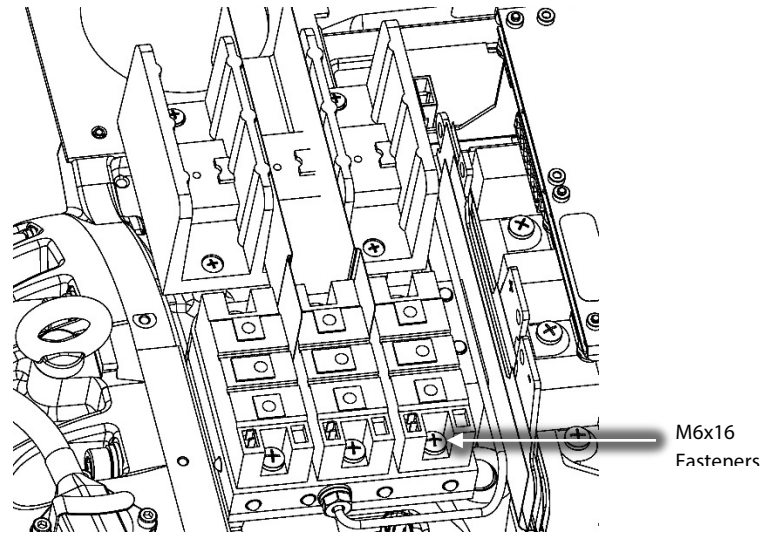

Figure 18 – SCR Fasteners
30. Remove the M6x16 fasteners that secure each rectifier diode to the cooling manifold and remove the rectifier diode. Refer to Figure 18 – (SCR Fasteners).